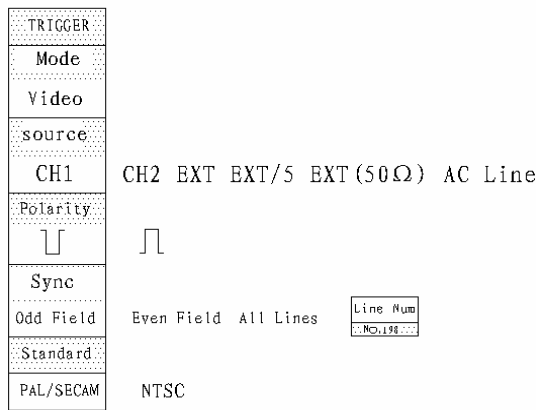

Figure 2-13
- b、 Video: Use video trigger on fields or lines for standard video signals. See Fig.2-13.
Choose video triggering to trigger on fields or lines of NTSC、PAL、or SECAM standard video signals, as Fig.2-13. Trigger coupling presets AC.